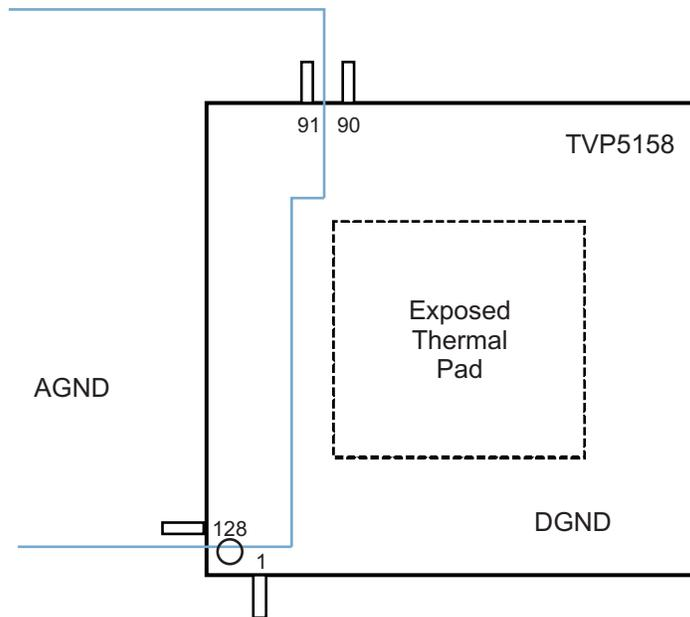

Figure 1.
- If a split ground plane (AGND/DGND) approach is used for board layout, Figure 1 shows the recommendation for the split relative to device pins and the package thermal pad.